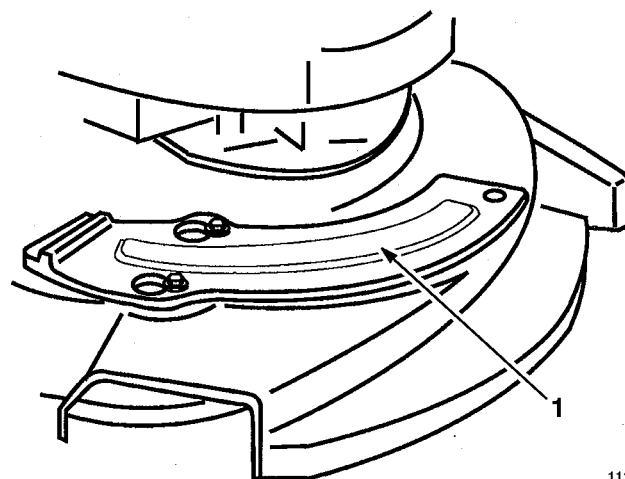

Figure 49
- Insert mulch plate into housing opening (Fig. 49).